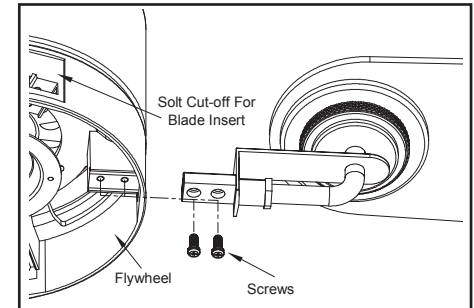

Figure 13
2. Insert a blade assembly to the slot cut-off in the center flywheel, align the two screw holes in the blade assembly with the screw holes in the flywheel and secure with the screws provided. Repeat for the remaining blade assemblies. (Figure 13)